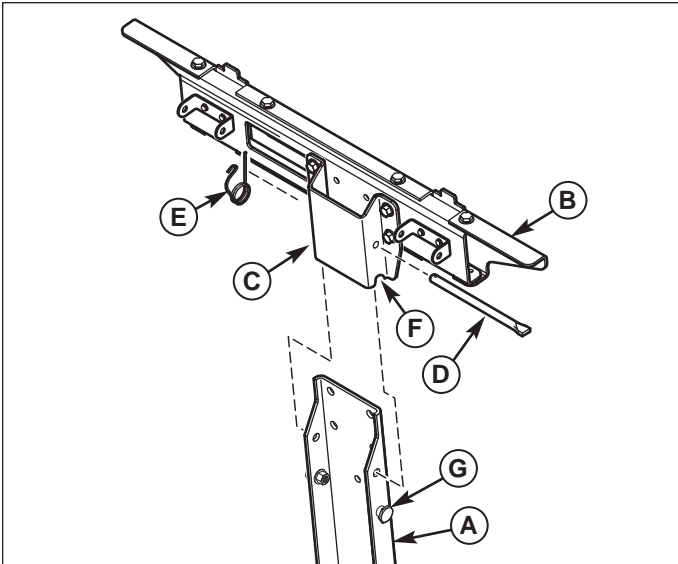

Figure 5. Install Bag and Cover Support
1. Attach the bag and cover support (B, Figure 5) to the upright support (A) by sliding the support mount (C) over the upright support (A) until the shoulder rest (F) makes full contact with the shoulder bolts (G).
2. Insert mount pin (D) through the support mount (C) and upright support (A) as shown.
3. Secure mount pin (D) with retainer spring (E).